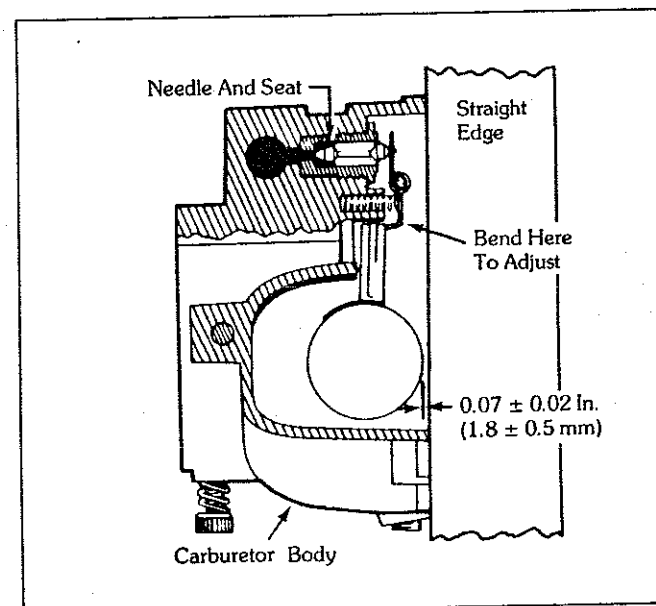

Figure 42.
4. Invert the carburetor and check the float setting (see Figure 42). The float should have a 0.07 ± 0.02 inch (1.8 ± 0.5 mm) clearance from the machined mating surface (without gasket). Bend the float tab as required.
5. If it is necessary to reset the float level, loosen the screw near float valve axle (pin) and bend the float arm near float valve axle (pin) to position float flush with top edge of carburetor float bowl. See Figure 42.